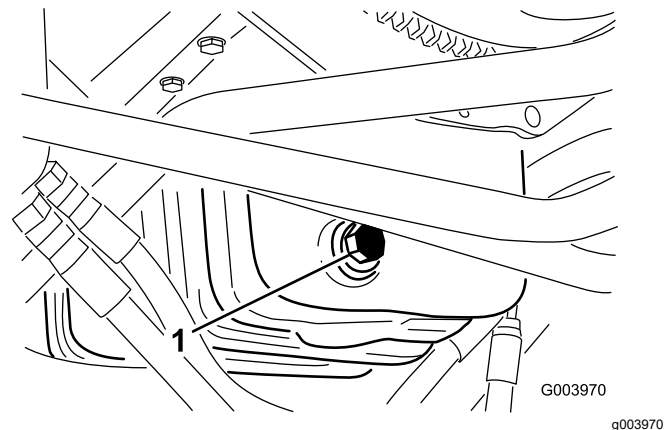

Figure 77
1. Remove the drain plug (Figure 77) and let the oil flow into a drain pan.